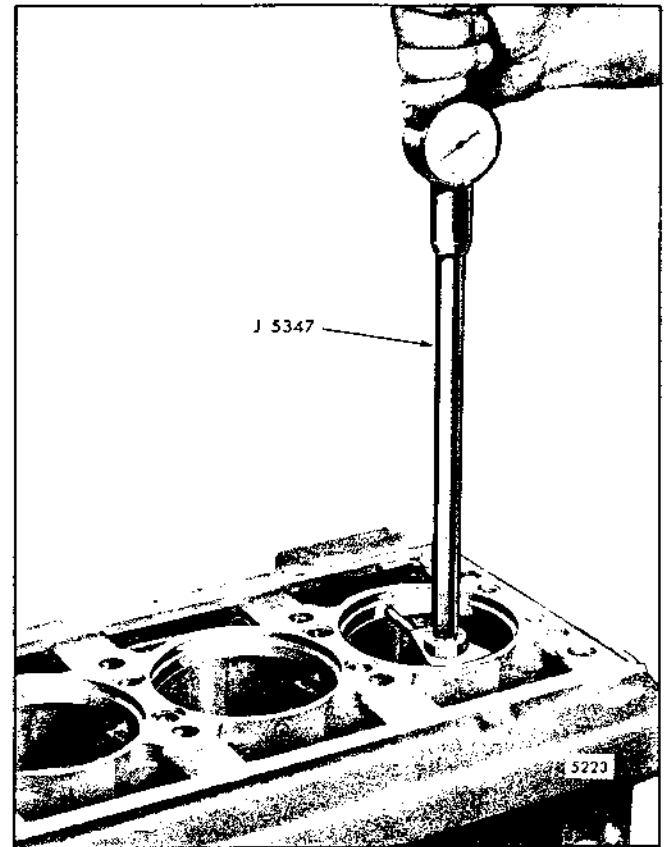
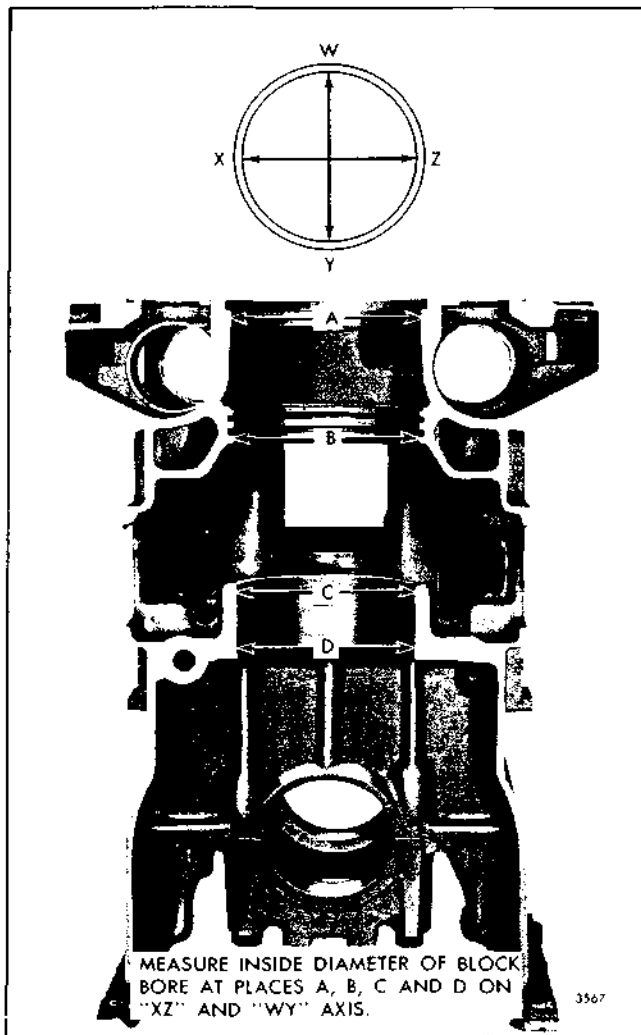

Fig. 12 - Checking Cylinder Block Bore with Tool J 5347
Fig. 13 - Block Bore Measurement Diagram
b. Measure the entire bore of each cylinder with cylinder bore gage J 5347 (Fig. 12) which has a dial indicator calibrated in .0001 " increments. Use dial bore gage setting tool J 23059 to preset the cylinder bore gage to zero. Measure each block bore at the positions indicated in Fig. 13, on axis 90° apart. If the diameter does not exceed 4.5235 " at position "A", 4.4900 " at position "B" (and a sealing problem hasn't occurred), or 4.3595 " at position "C" and "D", then the block may be reused. Also, the taper and out of round must not exceed .0015 ".